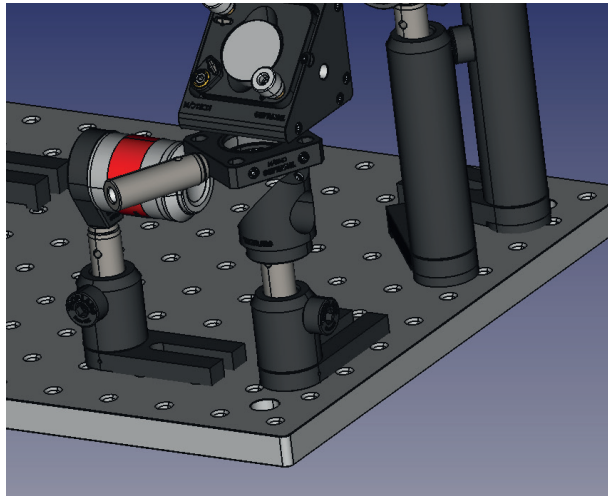

FIGURE 5 – Setting up the sample mount.
Step 5 : Install the sample holder in between the right angle kinematic mount and the 45° mirror mount. In our case we used a simple lens mount for cage system attached to an optical post and a translation stage to adjust the focus (not shown on figure 5). A sharp bright field image of the sample can be obtained on the CMOS when the focus is correctly adjusted.